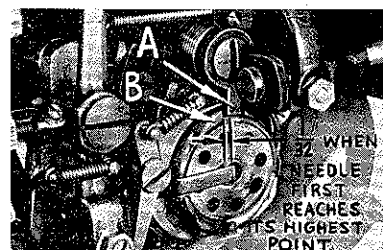

Fig. 8
The bobbin case release is timed correctly if there is a $\frac{1}{32}$ inch clearance between the release lever (A, Fig. 8) and bobbin case (B), when the release lever has traveled its full stroke to the left and the backlash in the hook has been taken up to the left. To adjust the opener, turn handwheel in operating direction until the release lever has traveled its full stroke to the left. Loosen screw (A, Fig. 9) in bobbin case release lever and turn opener to obtain the $\frac{1}{32}$ inch clearance. Tighten screw.